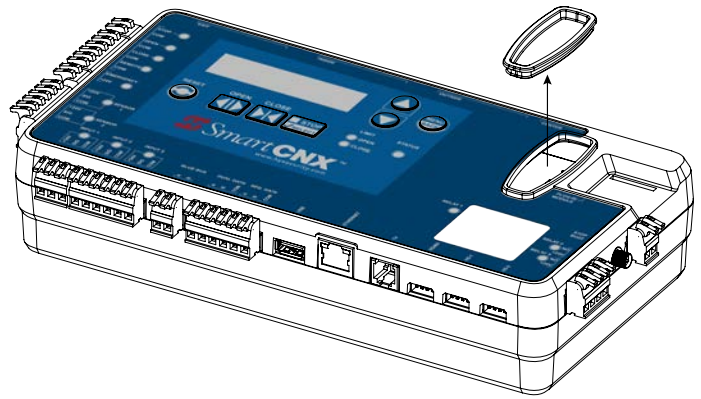

Figure 67. Remove OXI Receiver Cover
2. Remove the rubber plug or OXI receiver from OXI receiver slot (Figure 67).